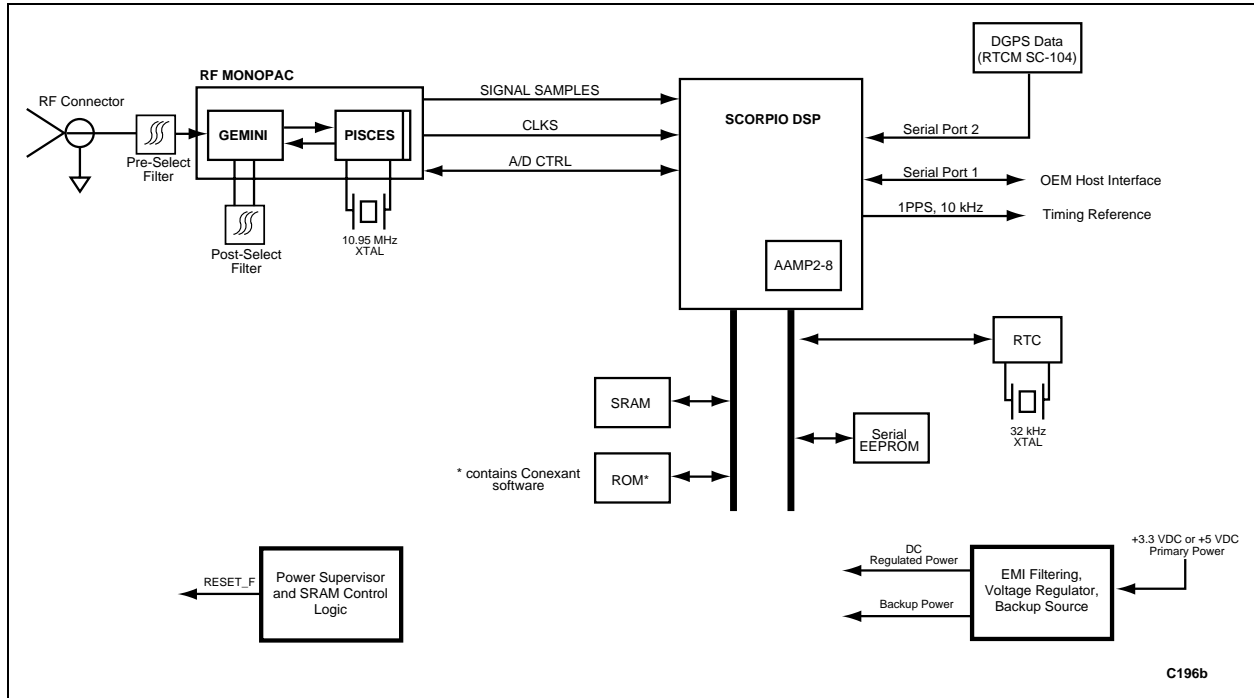
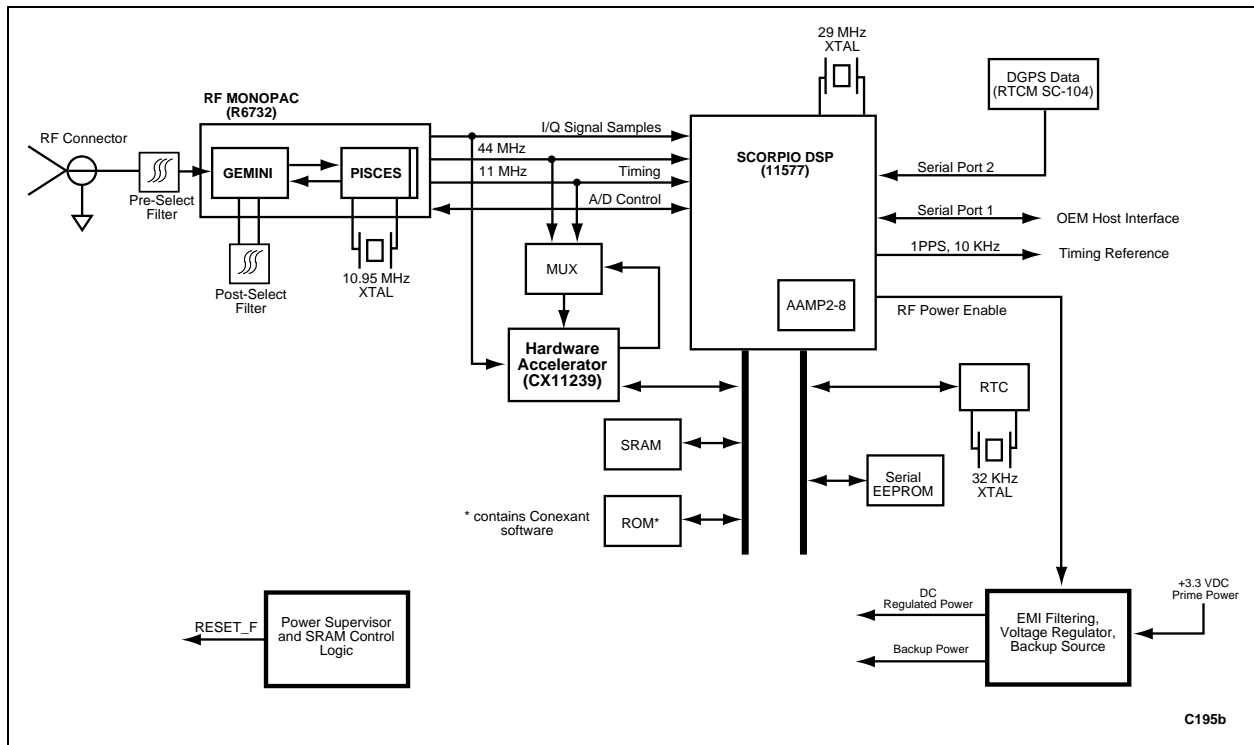
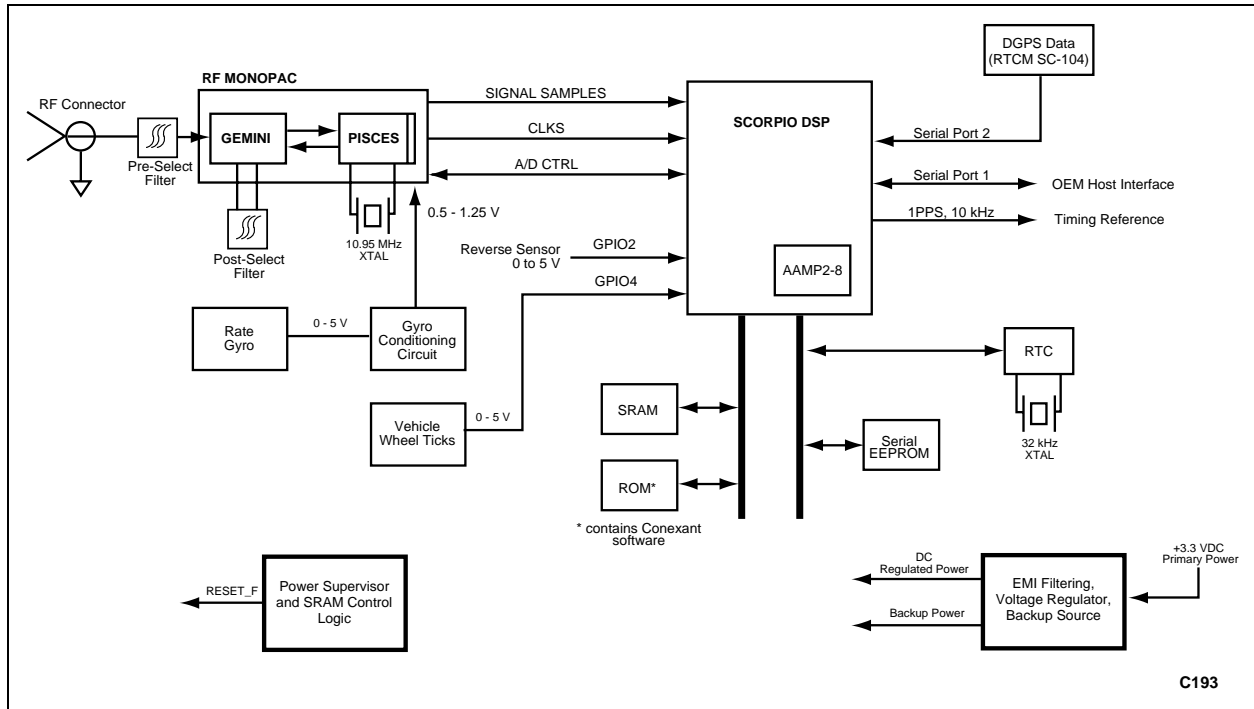

Figure 3. Basic Jupiter Block Diagram
Figure 4. Jupiter Block Diagram With The CX11239
Figure 5. Jupiter Block Diagram With Dead-Reckoning Capability
**Receiver Architecture.** The functional architecture of the basic Jupiter receiver is shown in Figure 3. Figure 4 shows the Jupiter with the CX11239 and Figure 5 shows the Jupiter with dead-reckoning circuitry. The receiver design is based on the Conexant Zodiac chipset: the Gemini/Pisces MonoPac™ and the Scorpio BP. The Gemini/Pisces MonoPac contains all the RF downconversion and amplification circuitry, and presents the In-Phase (I) and Quadrature-Phase (Q) Intermediate Frequency (IF) sampled data to the BP. The BP contains an integral microprocessor and the required GPS-specific signal processing hardware. Memory and other external supporting components configure the receiver into a complete navigation system.